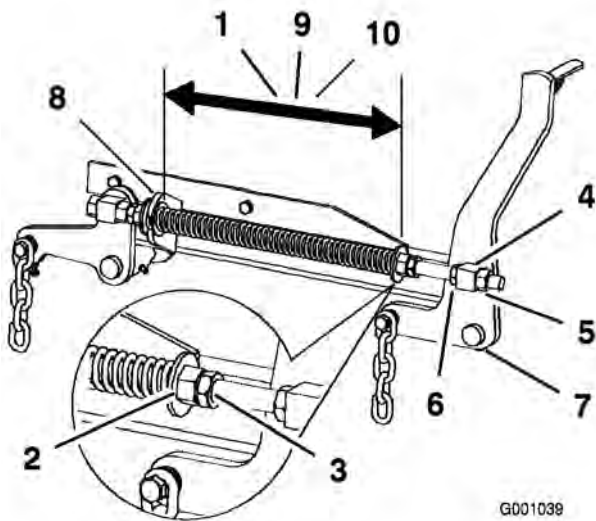

Figure 71
2. Check the distance between the two large washers, it needs to be 11-1/8 inches (28.2 cm) for 52 inch mower decks, 10-1/2 inches (26.7 cm) for 60 inch mower decks or 11-1/2 inches (29.2 cm) for 72 inch mower decks (Figure 71).
3. Adjust this distance, by loosening the spring jam nut and turning the nut in front of each spring (Figure 71). Turning the nut clockwise will shorten the spring; counter-clockwise will lengthen the spring.
4. Lock the nut into position by tightening the spring jam nut (Figure 71).